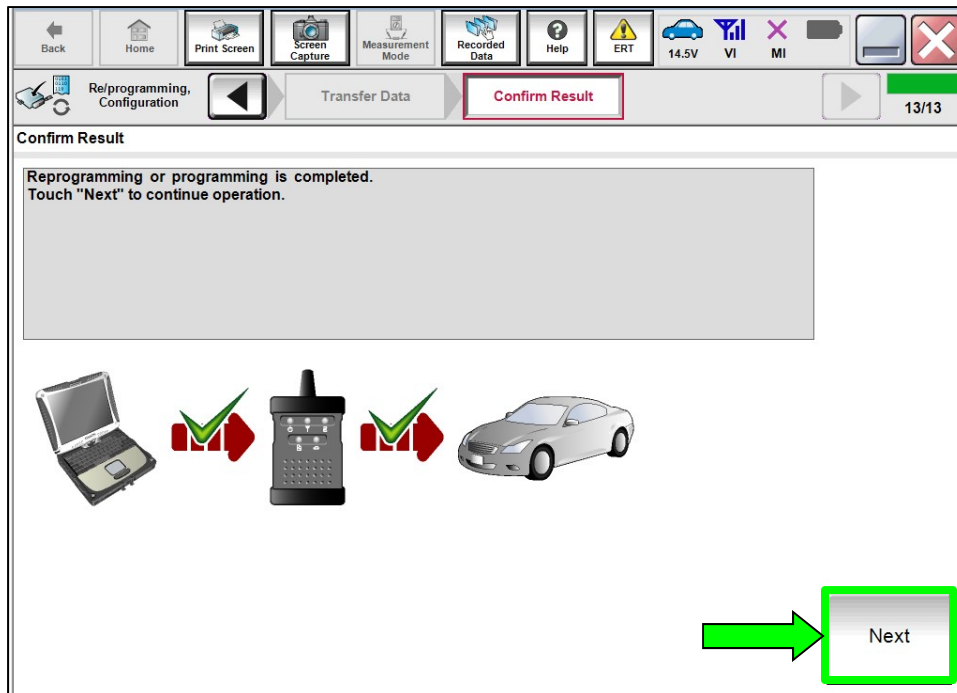

Figure 21
27. If the screen in Figure 21 displays, reprogramming is complete. Select **Next** and skip to step 28 on page 16. If the screen in Figure 21 does not display (indicating that reprogramming did not complete), refer to the information on the next page.